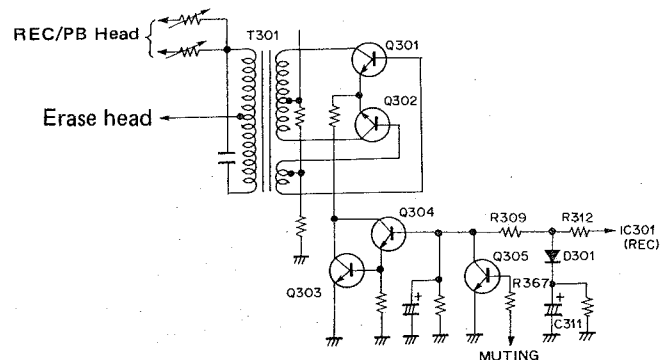

Fig. 7-1 Oscillator Circuit
An outline of the oscillator circuit is shown in Fig. 7-1. When the front panel REC and PLAY keys are pressed together, the IC301 REC output is switched to high (H) level, resulting in a signal being passed via R312, R309, Q304, and Q303, thereby turning these 2 transistors on to start up the oscillator.